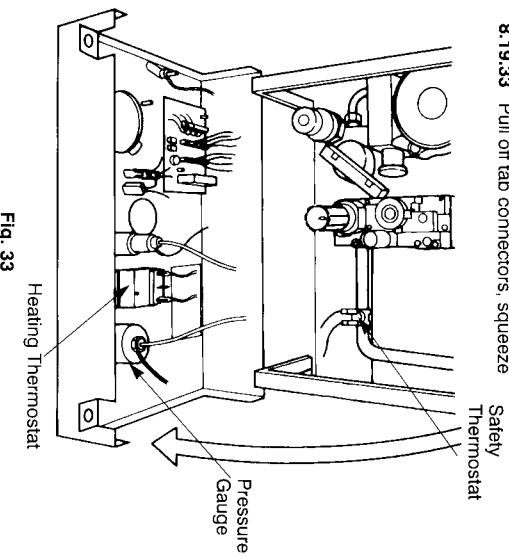

Fig. 33
Refer to figs 33 & 34
8.19.23 Reassemble in reverse order referring to figs 33 & 34 to ensure correct location of thermostat and push-on wiring tabs.